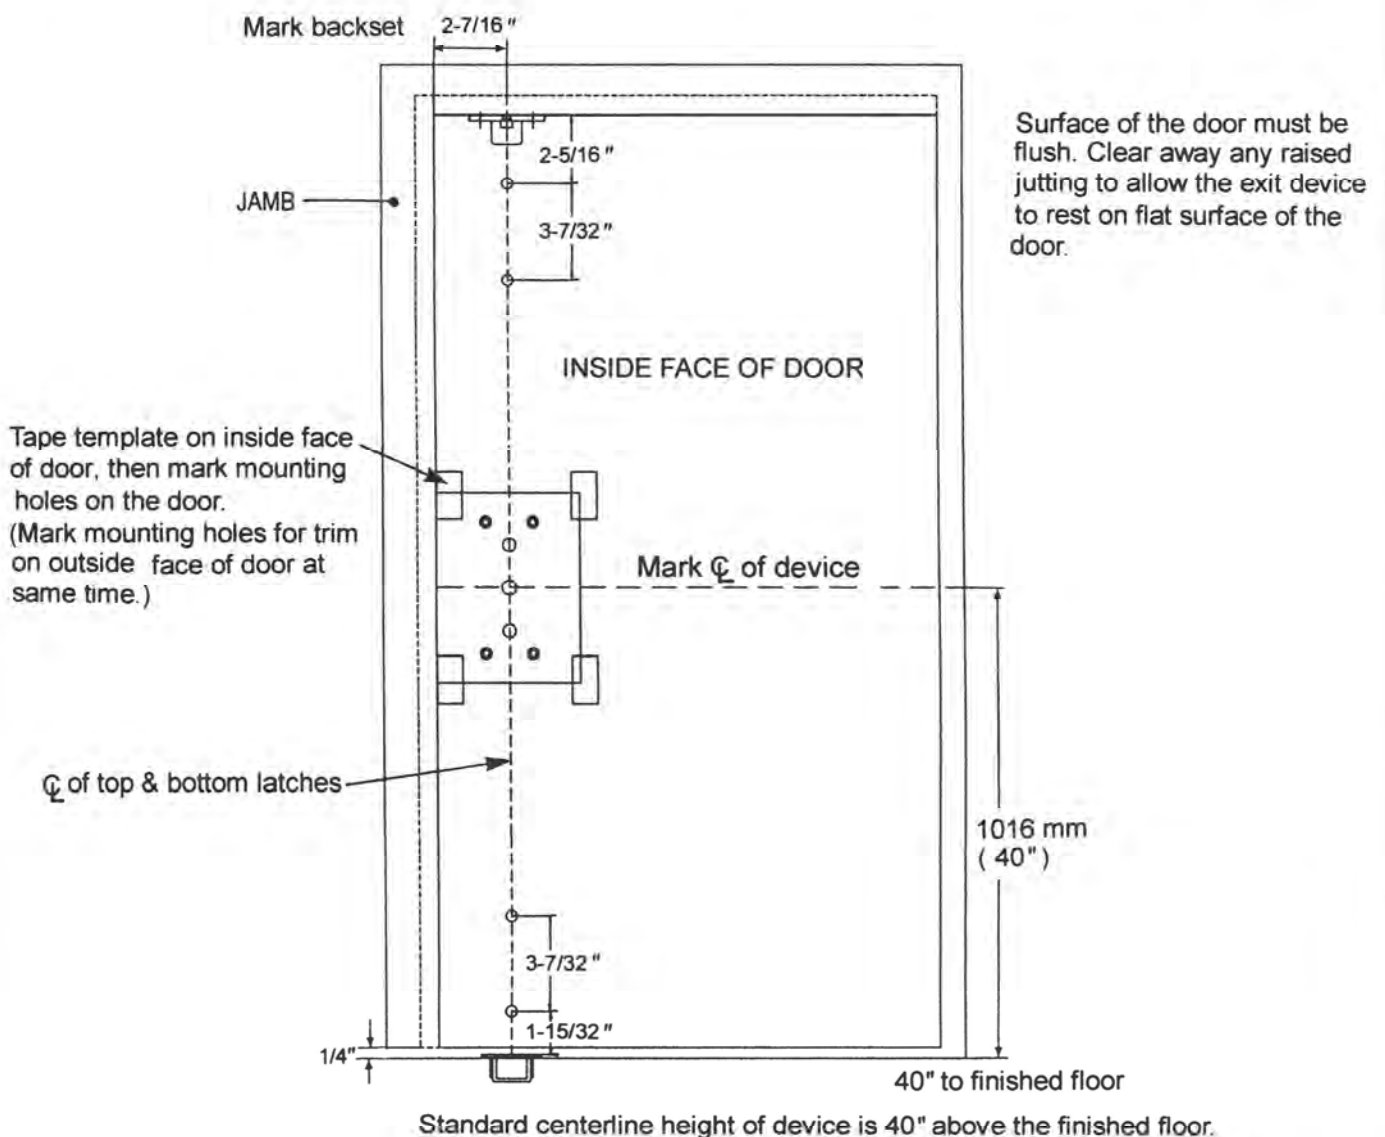

Figure 1
1. Mark position of holes on the door by templates. (See Figure 1.)